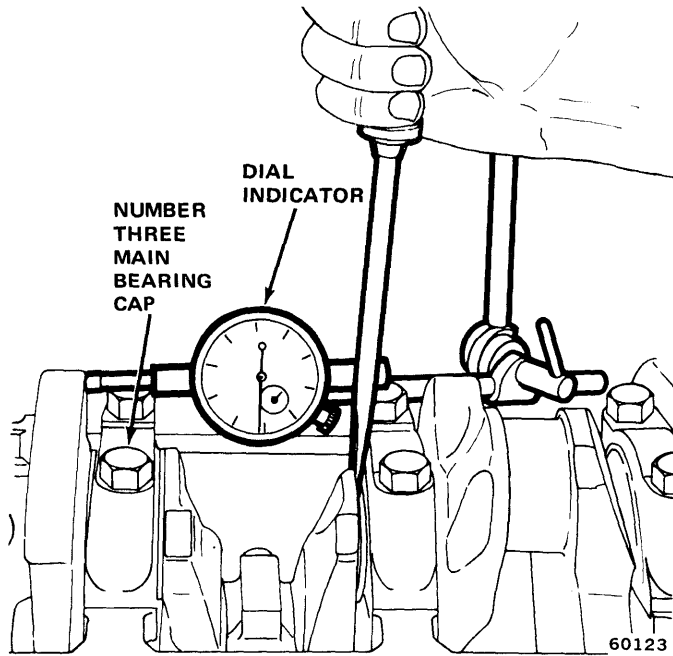

Fig. 1A-51 Measuring Crankshaft End Play
(1) Attach a dial indicator to cylinder block adjacent to No. 3 main bearing.
(2) Pry shaft forward with a flat-bladed screwdriver, set dial indicator, push rod on face of crankshaft counterweight, and set to zero.
(3) Pry shaft fore and aft. Read dial indicator (fig. 1A-51). The end play is the difference between the high and low readings.
(4) The correct crankshaft end play is 0.0015 to 0.0065 inch (0.002 to 0.0025 desired).
(5) If end play is incorrect according to specifications, inspect crankshaft thrust faces for wear. If no wear is apparent, replace thrust bearing and recheck end play. If end play is still outside specifications, the crankshaft must be replaced.